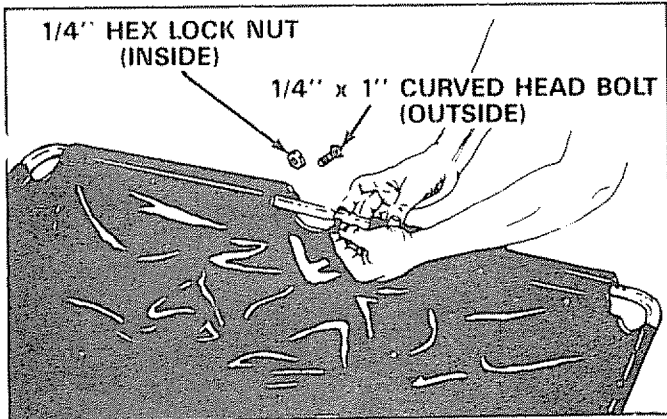

FIGURE 13
- Secure the upper hopper tubes with 1/4" x 1" curved head bolt and 1/4" hex lock nut. See figure 13.